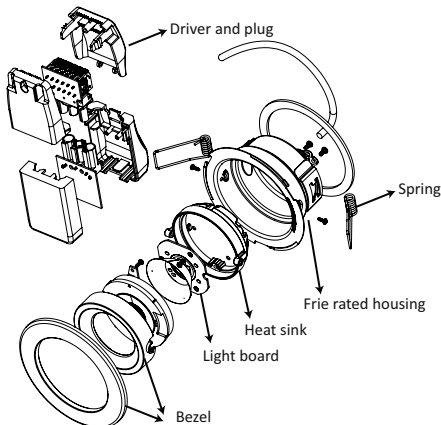

Fig. 1
- Cut a suitable hole in the ceiling as per the cut-out details ensuring that it does not infringe with electrical cables, water/gas pipes or ceiling joists. (see fig 1.)